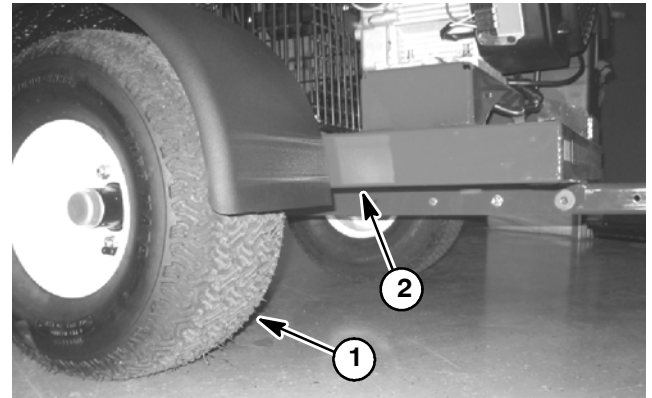

Figure 2
2. Position jack securely under the main frame of the blower (Fig. 2). Do not use the axle as a jacking point.